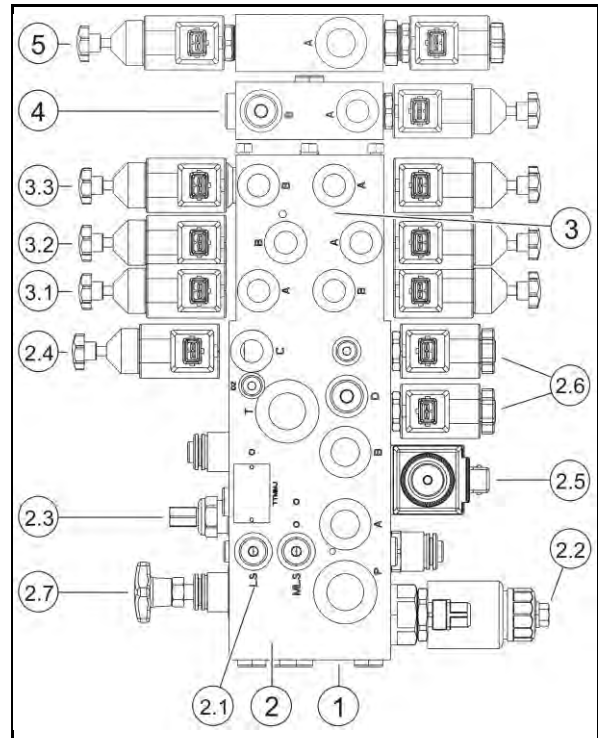

Fig. 32
1. Screw the load-sensing control line (2) into the connecting aperture (Fig. 32/2.1) of the electro-hydraulic control block.
- 2.1 screw the load-sensing screw (Fig. 32/2.7) in as far as it will go.
3. Connect the load-sensing control line (2) to the load-sensing connector of the tractor.
4. Connect the hydraulic connector "Return line" (4) to a free return port of the tractor.
5. Connect the hydraulic connector "Flow line" (5) directly to the hydraulic pump of the tractor.